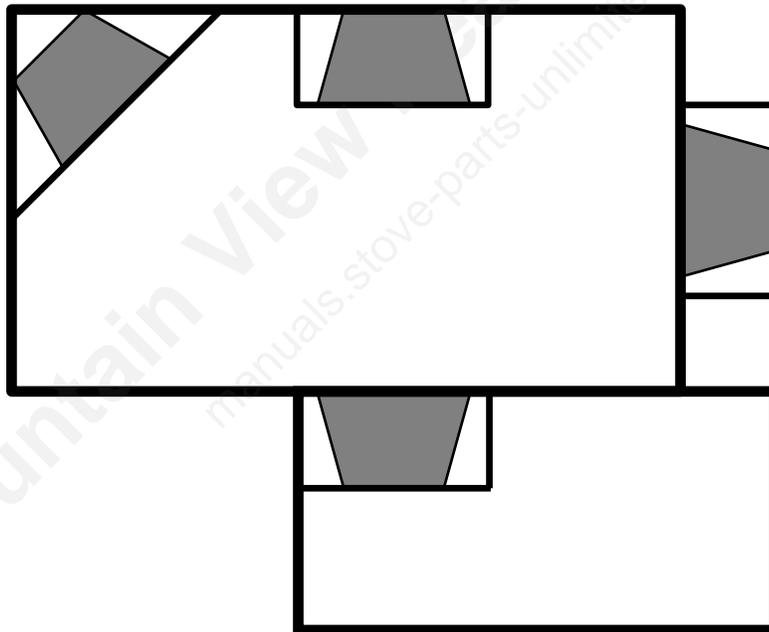

Figure 18 - Suggested Locations
- Minimize modifications to existing construction. *Refer to Figure 18 below for location suggestions.*